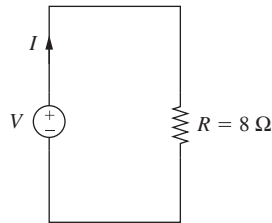

Figure P1.17 Resistive circuit for problem P1-17.
- 1-17.** The voltage–current relationship for the circuit shown in Fig. P1.17 is given by Ohm’s law as $V = IR$, where V is the